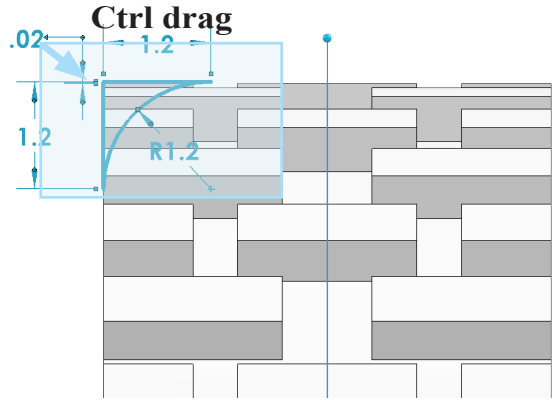

Fig. 45
Step 14. **Ctrl drag** a selection to **select all geometry at top of part**, **Fig. 45**.